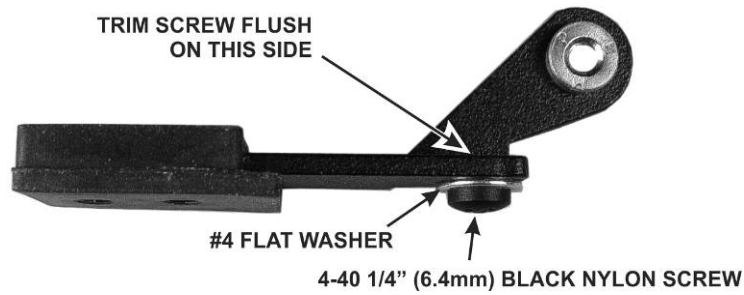

Figure 31. Placing Nylon Bumpers on the Tilt Legs.
- Install a flat washer and black nylon screw on each tilt leg as shown in Figure 31. Note the orientation of the screw as well as the rubber foot that you installed earlier. They must be as shown for the foot to work properly.
- Verify that you trimmed the screws flush with the legs as shown in Figure 31. Set the legs aside. They will be installed later.